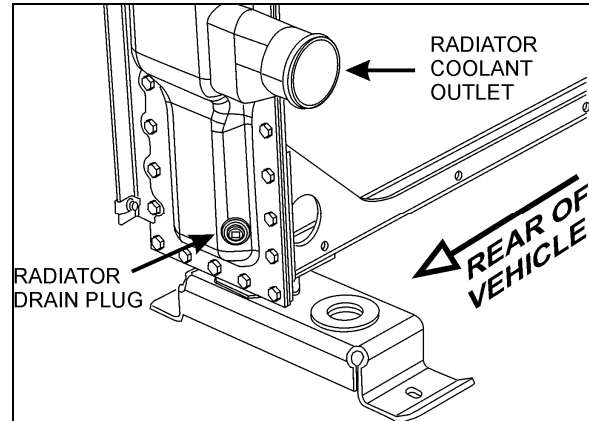

FIGURE 16: RADIATOR DRAIN PLUG
5. Open the radiator drain cock (Fig. 16).